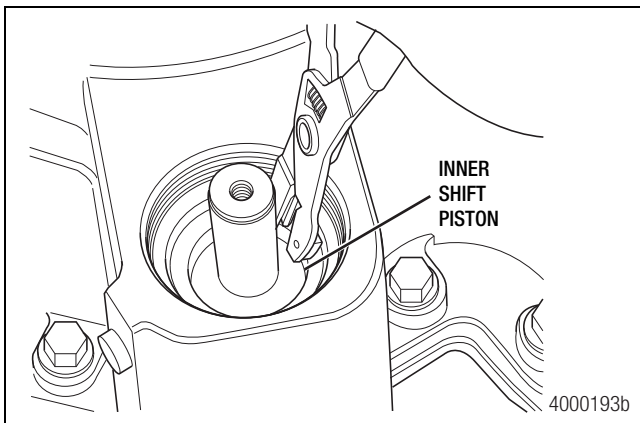

Figure 5.20
5. To remove the inner piston, reinstall and hand-tighten the shift cylinder. Apply air to the high gear input port. When the air pressure pushes the inner piston UP, remove the snap ring and inner piston. Figure 5.20.